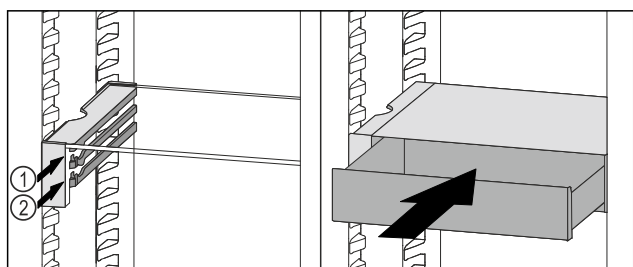

Fig. 89
- Place the VarioSafe drawer behind the stoppers on desired rib Fig. 89 (1) or Fig. 89 (2).